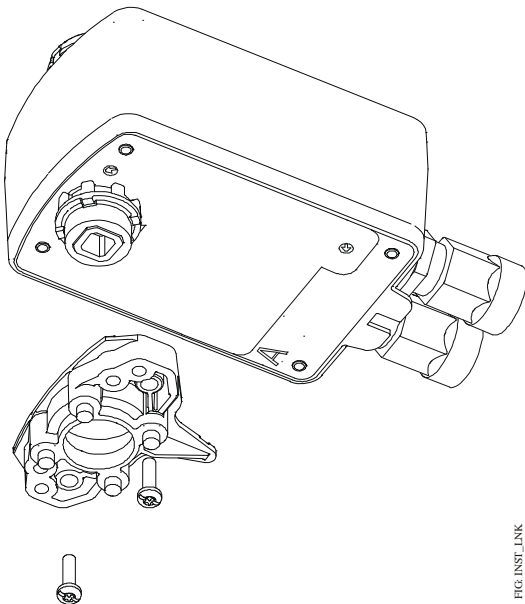

Figure 13: Installing the Linkage
3. Remove the linkage from Side B (Figure 13).
5. Install linkage base on Side A using the two #8-32 x 0.625 in. long screws (Figure 13). The recommended torque is 29 to 33 lb-in. (3.3 to 3.7 N-m).